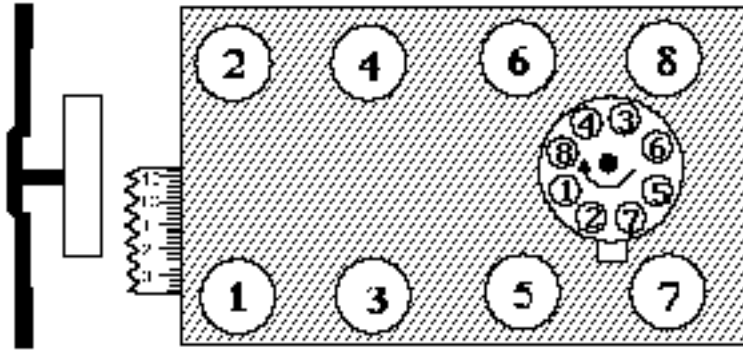

Figure 1
15. Rotate engine until timing marks are aligned as in Figure 1.
1. Turn the engine over in direction of rotation until the #1 intake valve closes and continue until the pointer on the front cover is approximately five degrees before top dead center (BTDC). If valve cover is already on engine, you may remove #1 spark plug and slowly rotate engine until you can feel compression with your finger, then continue until the pointer on the front cover is approximately five degrees BTDC. See Figure 1 for firing order.